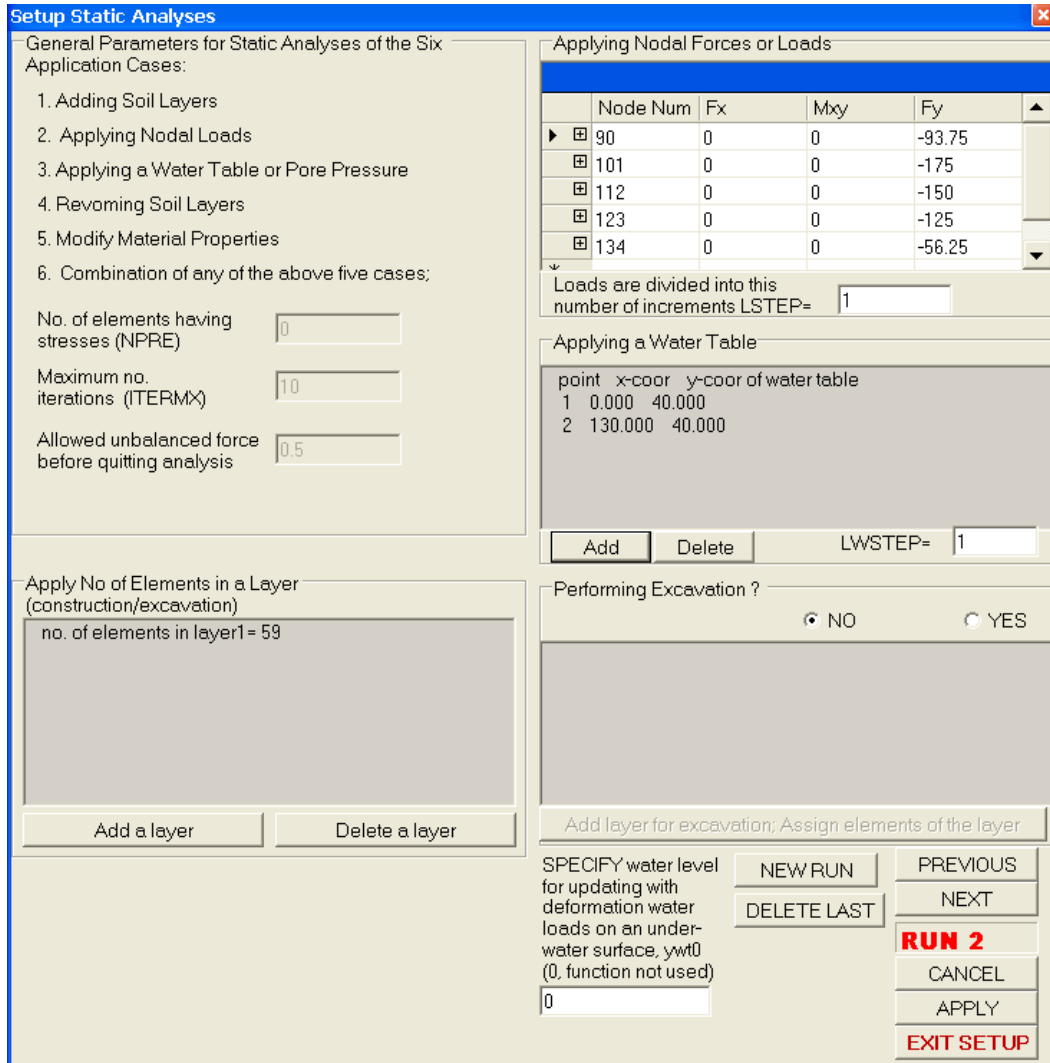

Figure 3.4 A static setup window for Run 2
- Click “*Add a layer*” in the sub window “*Apply No of Elements in a Layer*”, add one new layer with 59 elements as shown in Figure 3.4
- Click “Add” in the sub window “Apply a Water Table”, add two points to define a water table as shown in Figure 3.4.
- Go back to “Setup static analysis” and ‘Setup Window’ again. The window as shown in Figure 3.4 should contain the loads for nodes 90, 101, 112, 123 and 134.